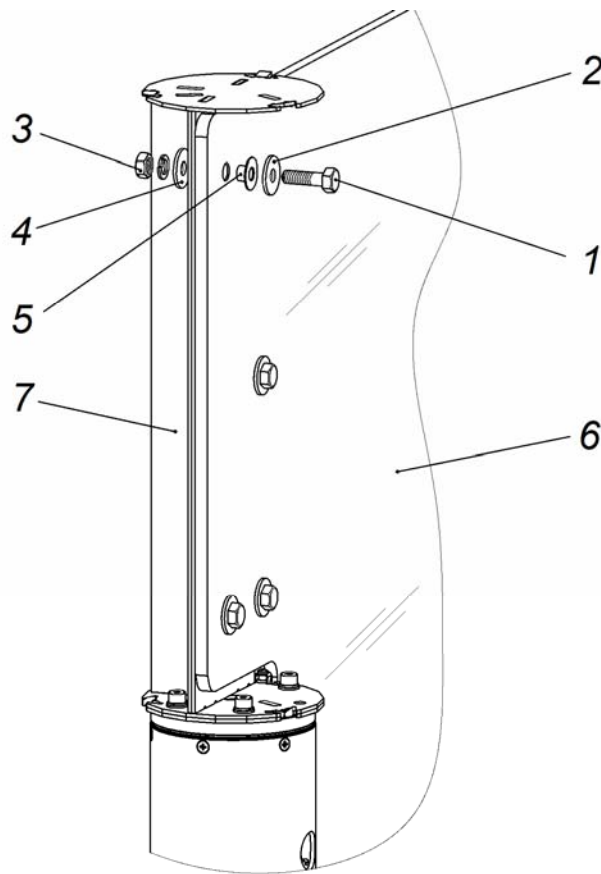

Figure 12. Glass panel mounting
13. Mount the glass panel according to Fig. 12. Fix the panel (6) on the rotary support (7) with elements (1) – (5).